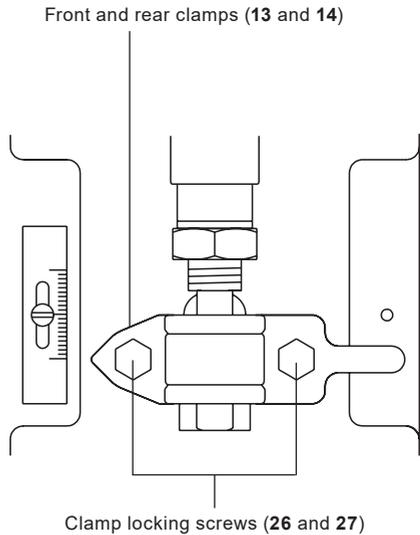

Fig. 5
- Apply the control signal pressure required to bring the spindle to mid-travel position (Figure 5). Place the actuator yoke over the valve spindle and locate it onto the bonnet shoulder. Hand tighten the mounting nut.
- Carefully release the control air signal. Fit the front and rear clamps (**13** and **14**) as shown in Figure 5.
Carefully release the control air signal. Fit the front and rear clamps (13 and 14) as shown in Figure 5.